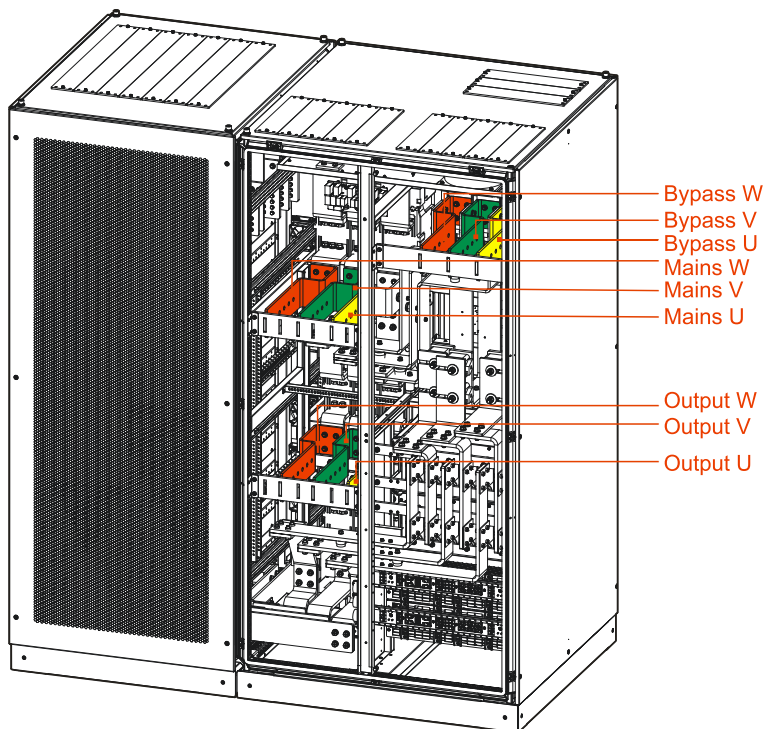
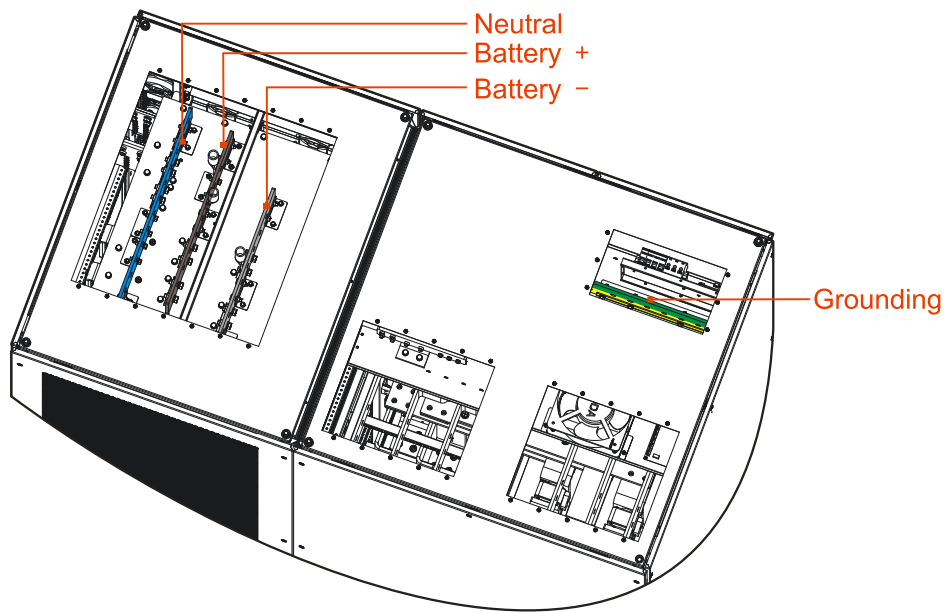

Figure3-30 Wiring position of IST61200 1
Figure3-31 Wiring position of IST61200 2
- Step 3 Follow the order to connect wires: grounding wire, input wire, output wire, battery wire, and then fasten the bolts, as shown in Figure3-30 and Figure3-31.